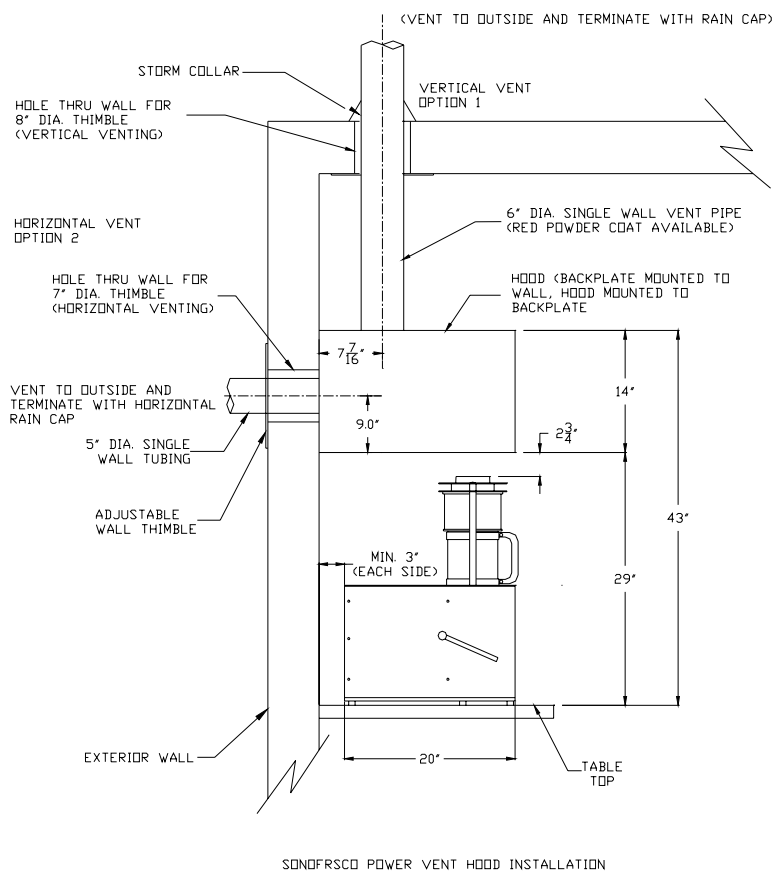

Figure 1
**Venting:** The roaster must be vented to the outside when used indoors to prevent the accumulation of emissions. Venting options include placing the roaster under an existing exhaust hood such as in a commercial kitchen, venting directly into the Sonofresco direct vent kit, or the Sonofresco vent hood. We recommend the Sonofresco vent hood shown in Figure 1. The vent hood will allow the roaster to be vented greater distances and will eliminate the possibility of back pressure and wind affecting the roaster caused by direct venting.
A vent hood, shown in Figure 1, can be ordered from sonofresco and provides many advantages. First, since it is a powered vent, the exhaust can be vented at greater distances without the risk of back-pressure into the roaster. Second, the exhaust can be tied into existing ducting without back-pressure issues, and third, strong wind pressure against the outside vent will not pose a problem to the roaster. The basic hood installation is shown in Figure 1. Please contact sonofresco for more details on venting the coffee roaster with a vent hood.